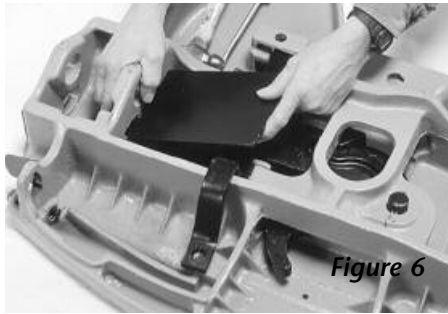

Figure 6
- Slide the cover plate tabs further into the bracket pocket slots, lift and remove (Figure 6).
- Reinstall the cover plate by sliding the cover plate tabs further into the bracket pocket slots and move into place (Figure 6).